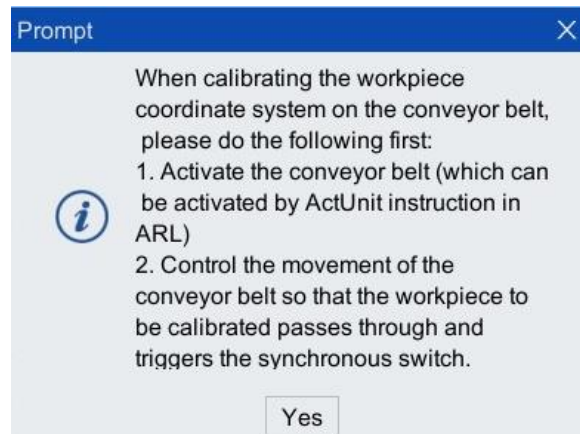

Figure 5-9 "Prompt" interface
Step11. After clicking <3-point>, the prompt interface shown in Figure 5-9 will pop up: Follow the prompts to complete the operation.